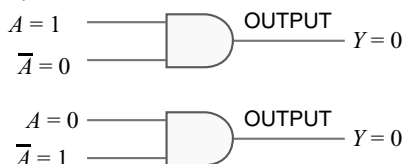

Fig. 24.40
**Theorem 4.** ( $A \cdot \bar{A} = 0$ ). This theorem states that if a variable  $A$  is ANDed with its complement, the result is zero. This is readily apparent because either  $A$  or  $\bar{A}$  will always be 0. Therefore, when one of the inputs to an AND gate is 0, the output is always 0. Fig. 24.40 illustrates this theorem.